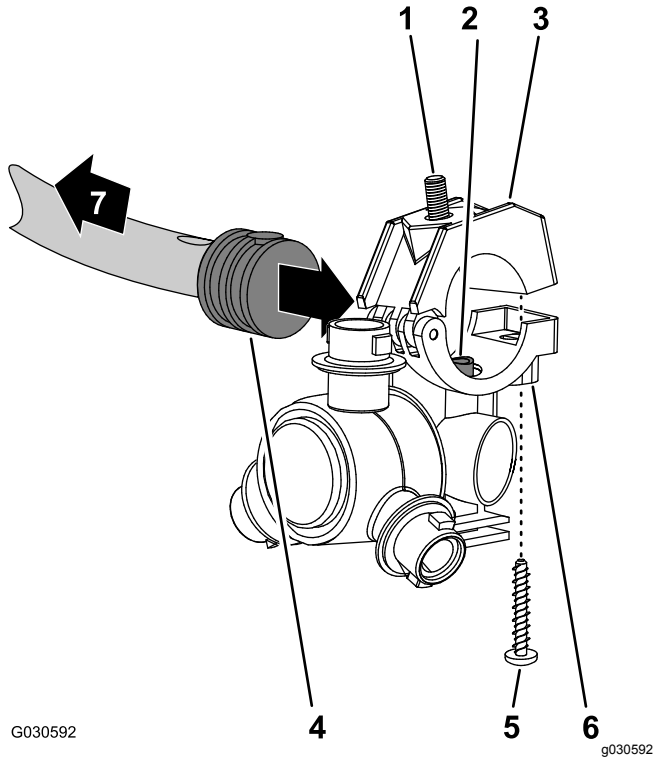
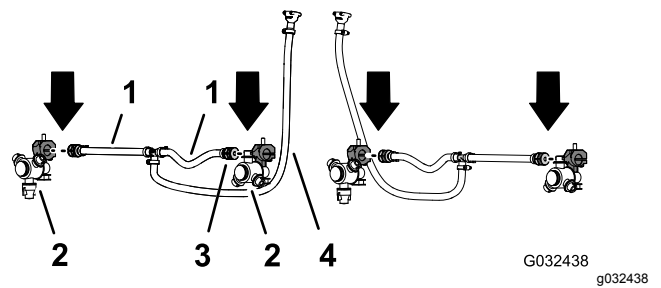

Figure 80
Figure 81
1. Working with the sprayer nozzles that you removed in 12 Removing the Sprayer-Nozzle Hoses for the 3-Section System (page 31), remove the stainless steel screws that secure the upper clamp halves to the saddles (Figure 80).
2. Locate the hole in the side of single barbed-hose shank at the end of the hose 25 cm (10 inches) of the hose assembly (sprayer valve 5 or 6) for the center-boom section (Figure 80 and Figure 81).
3. Align the transfer tube in the saddle of a sprayer nozzle (Figure 80) with the hole in the side of the single barbed-hose shank (1/2 inch).
4. Close the upper clamp half around the barbed-hose shank and sprayer-nozzle body (Figure 80) with the stainless steel screw (#12 x 1-1/4 inches); torque the stainless steel screw to 226 to 282 N·cm (20 to 25 in-lb).
5. Repeat steps 2 through 4 to the single barbed-hose shanks of the other hose assemblies (sprayer valve 5 or 6) for the center-boom section (Figure 80 and Figure 81).